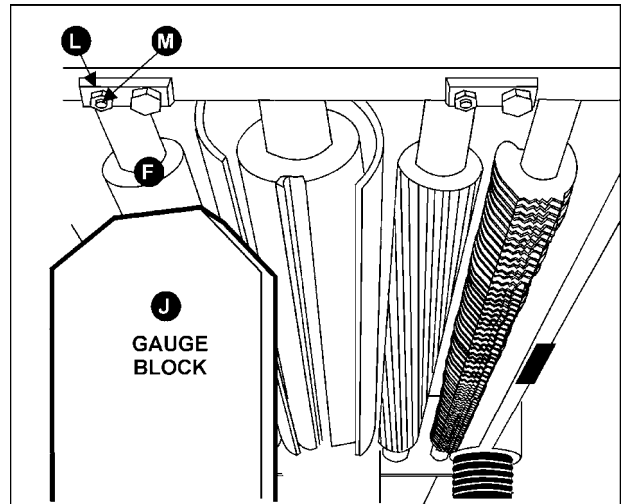

Fig. 27
4. Move the gauge block (J, Fig. 27) under one end of the outfeed roller (F, Fig. 27). The bottom of the outfeed roller should just touch the top of the gauge block. If an adjustment to the outfeed roller is necessary, loosen the lock nut (L, Fig. 27) and turn screw (M, Fig. 27) until the outfeed roller just touches the gauge block. Then tighten lock nut (L, Fig. 27).